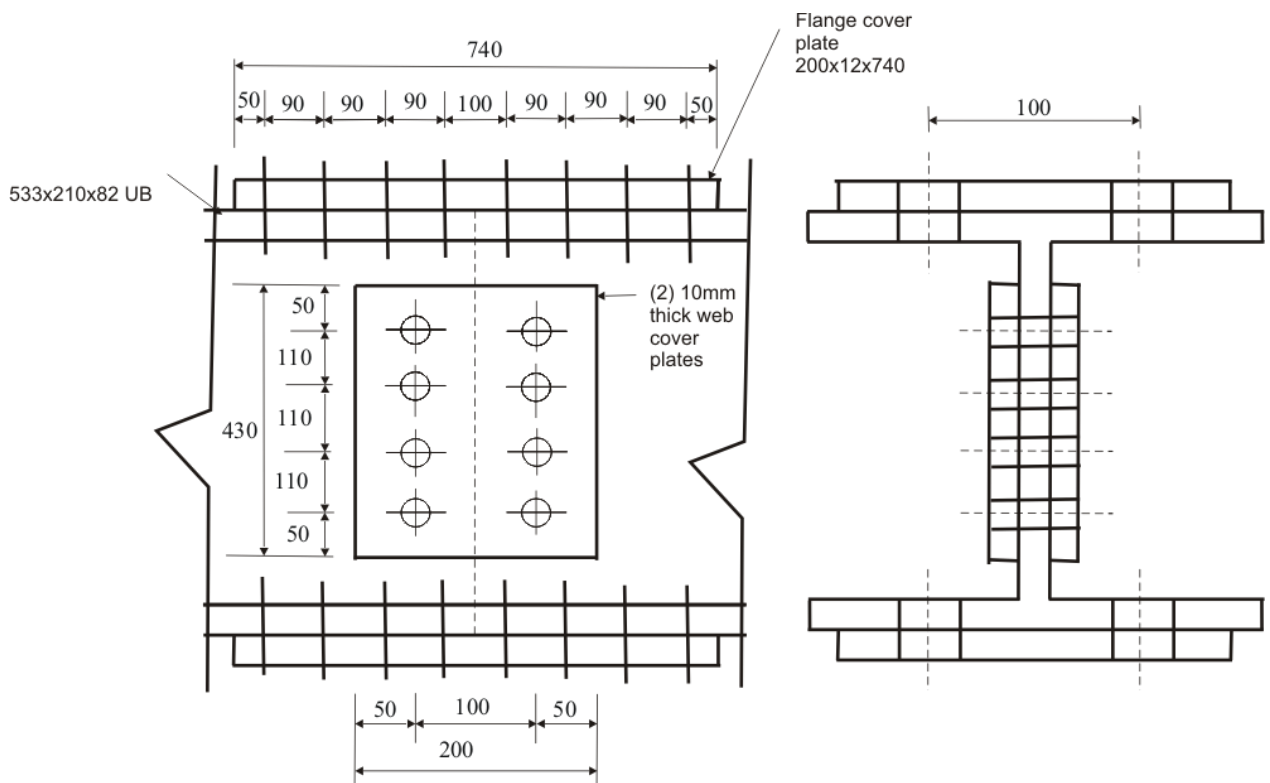

Figure 3
b) Show that the splice connection shown in figure 3 is suitable to resist a design bending moment, 300kNm and shear force 320kN. Assume the steel S275 (grade 43) and the bolts are general grade, M24, HSFG bolts.